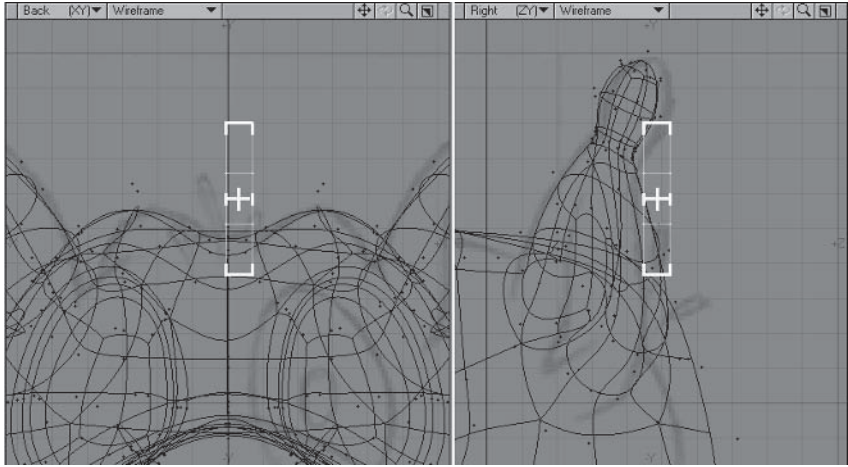

Figure 5.3-127. Create a box to start the first hair.
2. Turn off **Symmetry** and select a new layer with the head in the background layer. Create a box with three segments in Y, matching Figure 5.3-127.